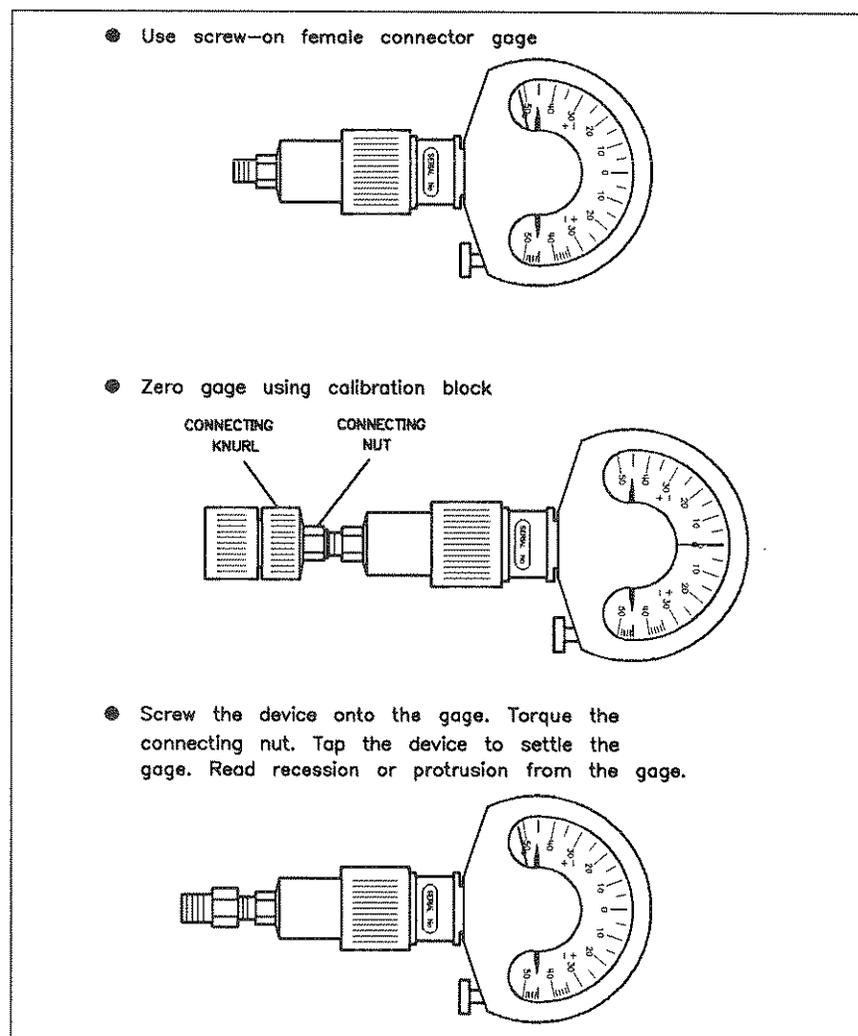

Figure 3-20. Gaging a 2.4 mm Male Connector
1. Refer to Figure 3-20 Using the male calibration block, zero the gage as described in the general procedure at the beginning of this chapter.